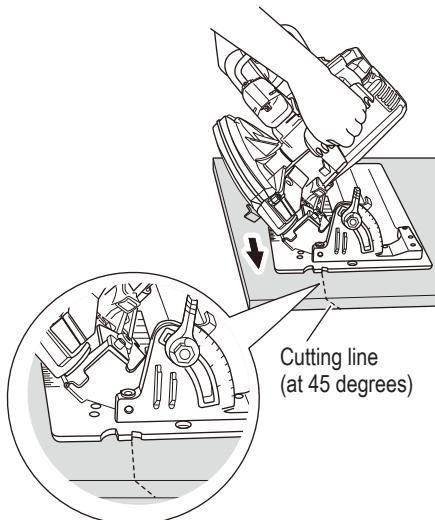

Fig. 31
- (2) When the base is not inclined, use the right side of the notch (Fig. 29, Fig. 30). If the base is inclined (45 degrees), use the left side of the notch (Fig. 29, Fig. 31).